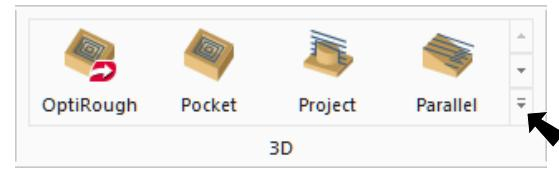

Fig. 20
Step 2. On the Toolpaths tab **TOOLPATHS** in the 3D group click expand gallery button  and click **Radial** , Fig. 20.